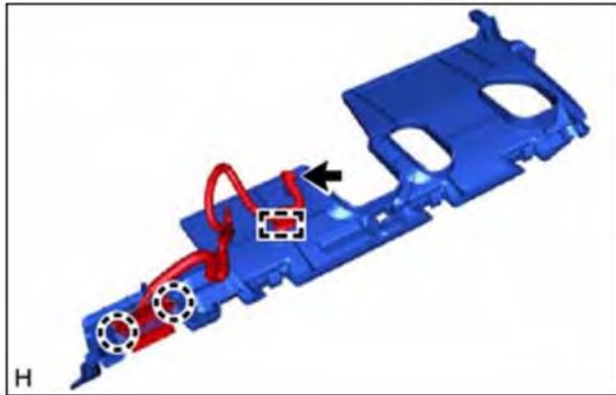

Figure 22
(1) Detach the claw and remove the DLC3. Figure 22.